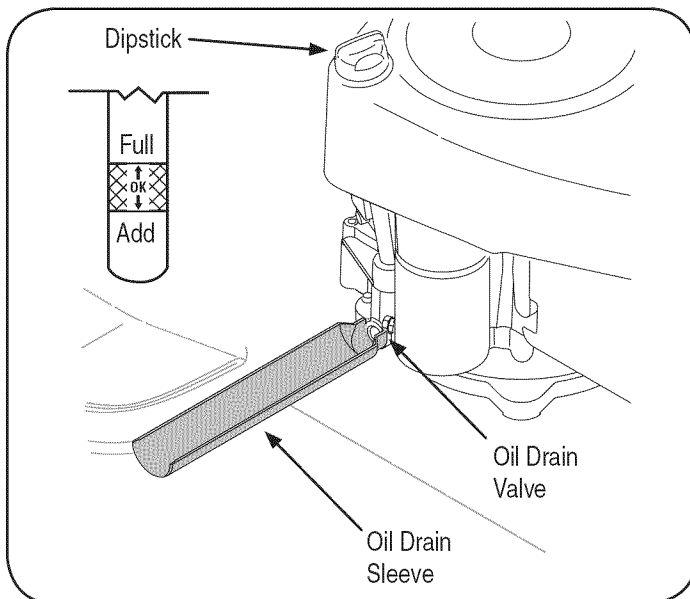

Figure 10
5. Remove the dipstick and check the oil level. It should be at the Full mark on the dipstick. See Figure 10.